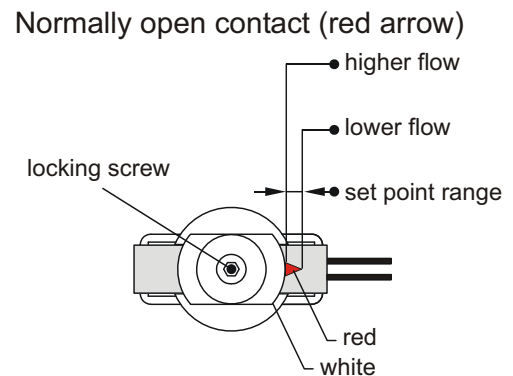
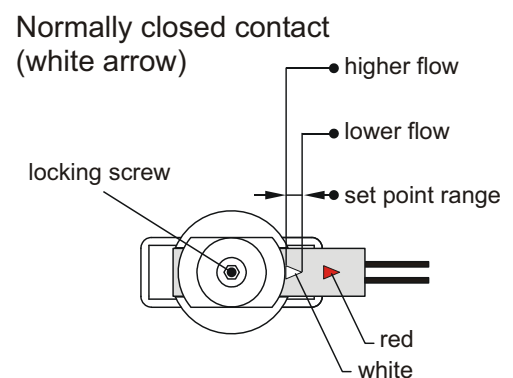

Fig. 18
Fig. 19
- ☞ Subsequently loosen the locking screw (2.5 hexagon socket screw for the brass and stainless steel version or recessed head screw for the plastic version) and position the switching unit until the red or white arrow are visible at the entry of the switching contact guide for a desired make contact (Fig. 18) or break contact (Fig. 19) respectively.